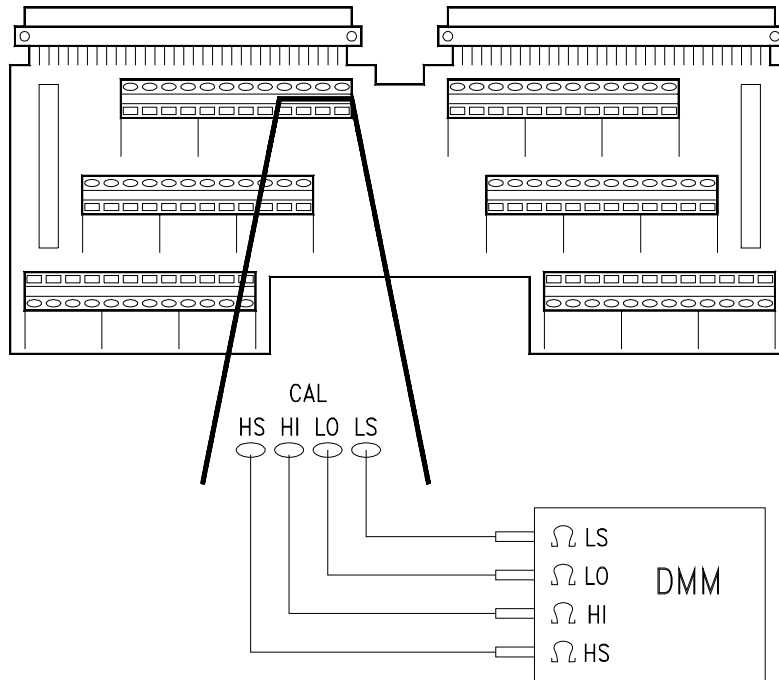

Figure 5-5. Internal Resistor Adjustment Connections
1. Make the connections shown in Figure 5-5.